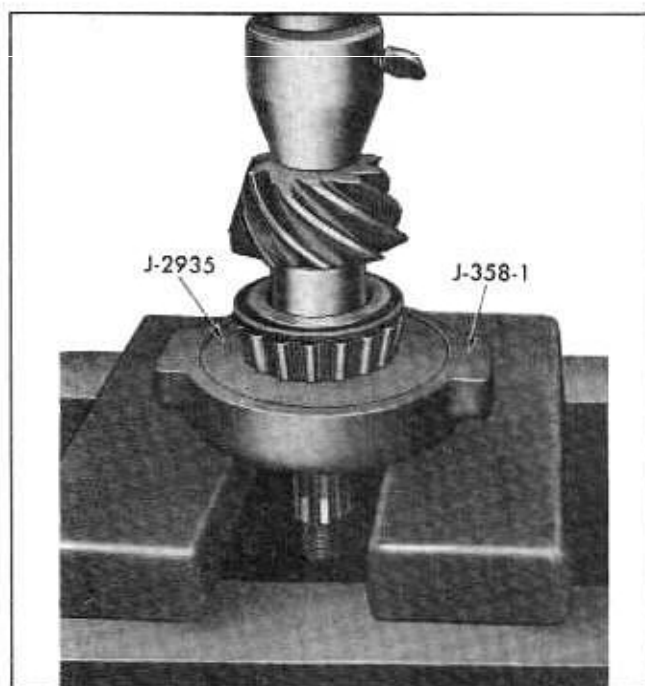

Fig. 4-35 Installing Rear Bearing With Installer J-2935 and Holder J-358-1
19. If rear bearing inner race and roller assembly was removed, replace assembly by pressing firmly in place against shoulder of pinion using Installer Plate J-2935 and Holder J-358-1 (Fig. 4-35).